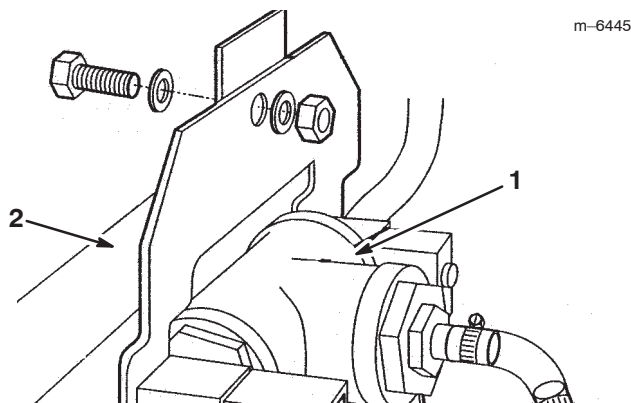

Figure 5
12. At the rear of the machine, mount the mixer assembly to the angle on the center boom assembly with a bolt (3/8 x 1 inch), flat washer, and locknut (Fig. 5).